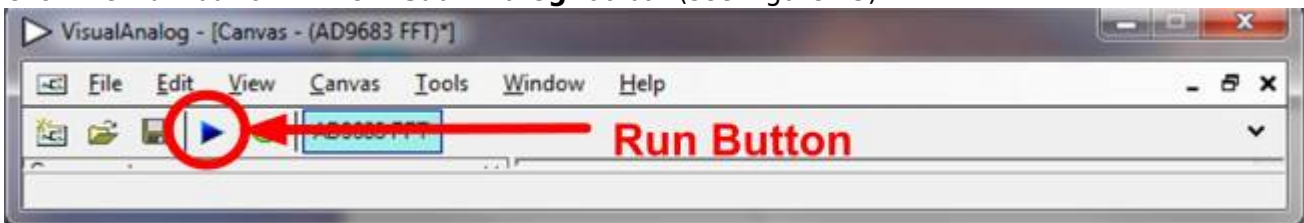

Figure 13. Run Button (Encircled in Red) in VisualAnalog Toolbar, Collapsed Display
5. Click the **Run** button in the **VisualAnalog** toolbar (see Figure 13).